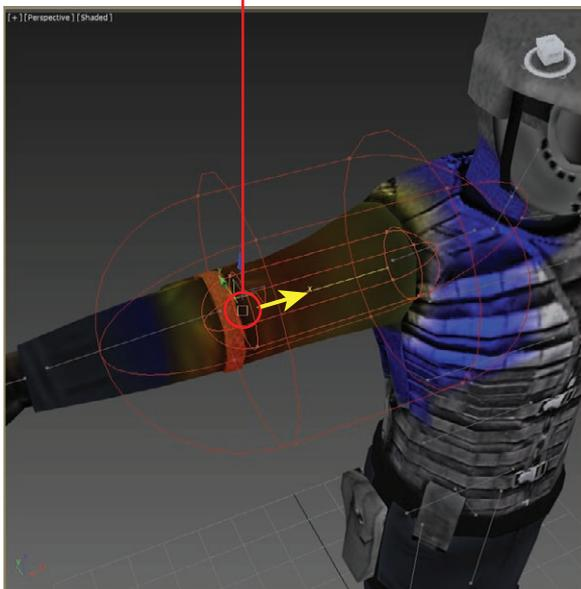

FIGURE 12.18 Select the bone vertex and move it to make the envelope smaller.
2. Select the `Bip001 R UpperArm` object: You can select the object from the name list in the Skin parameters or just click on the representation of the bone on the model. Select the vertices at the end of the bone and move it toward the clavicle to make the envelope smaller, as shown in Figure 12.18.